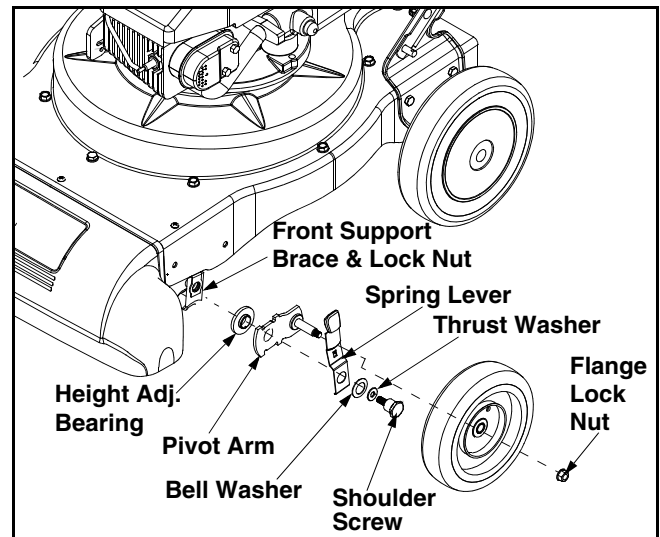

Figure 11
- Remove flange lock nuts and front wheels that attach to pivot arm assemblies. See Figure 11.